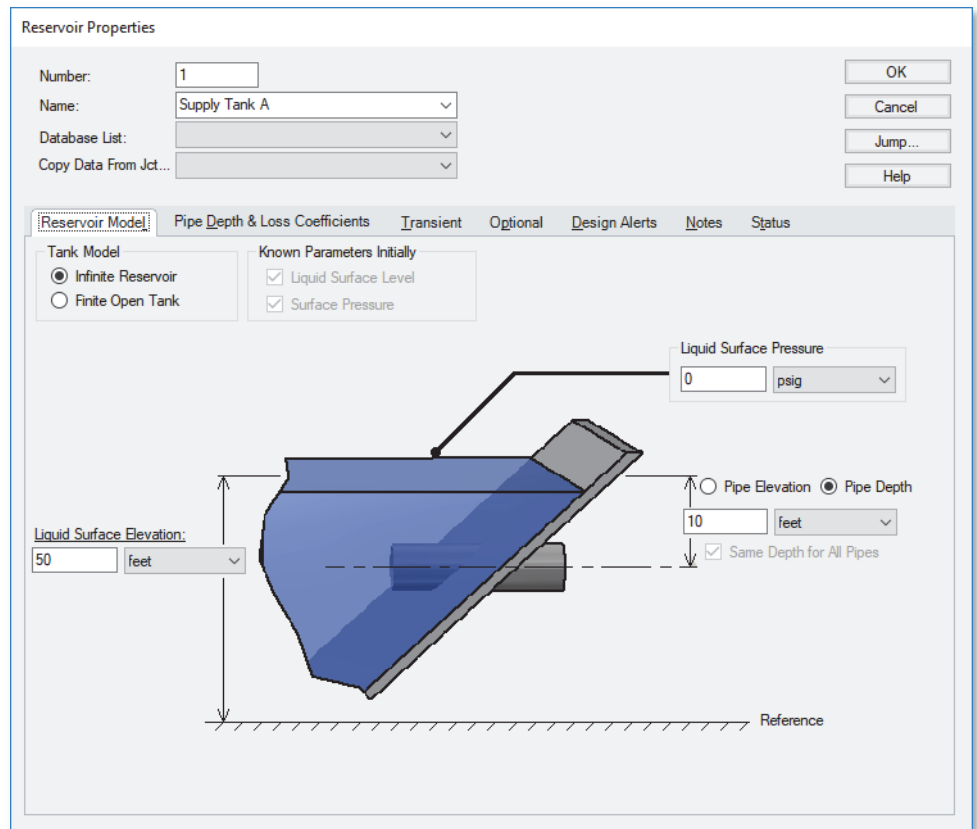

Figure 2.9 Properties window for Reservoir J1
- **To define the first reservoir**, open the J1 Reservoir Properties window (Figure 2.9) by double-clicking on the J1 icon. The pipe depth should now be enabled for entry, showing that Pipe 1 is connected to the reservoir.
You can give the object a name, if desired, by entering it in the Name field at the top of the window. By default, the junction's name indicates the junction type. In Figure 2.9, the name of this reservoir has been changed to Supply Tank A. The name can be displayed on the Workspace, Visual Report or in the Output.
The information in the Properties windows is grouped into several categories (or folders) and placed on separate folder tabs. Click the folder tab to bring its information forward. Figure 2.9 is an example of a Reservoir’s Properties window.